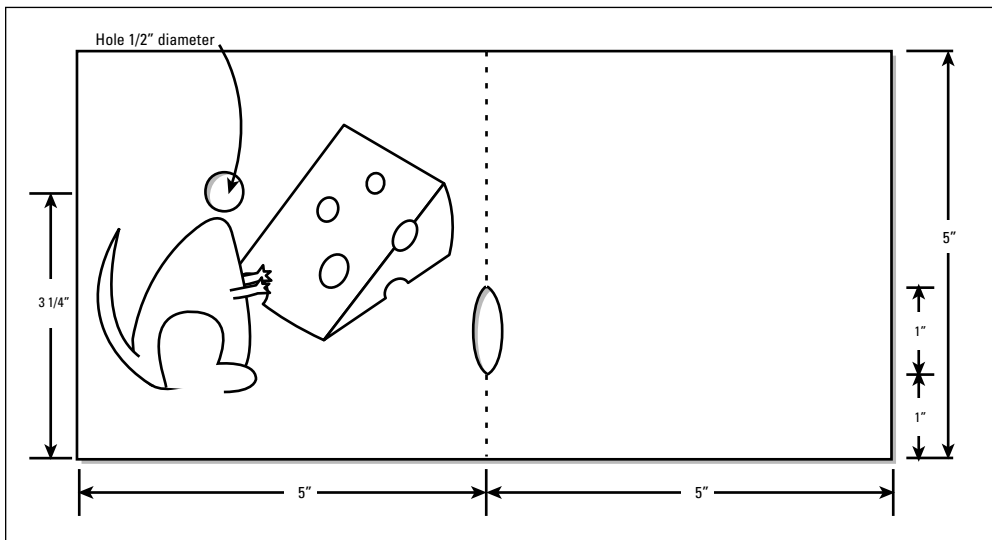

Figure 8-12:
1. Copy the template from Figure 8-12 onto a sheet of thin card.